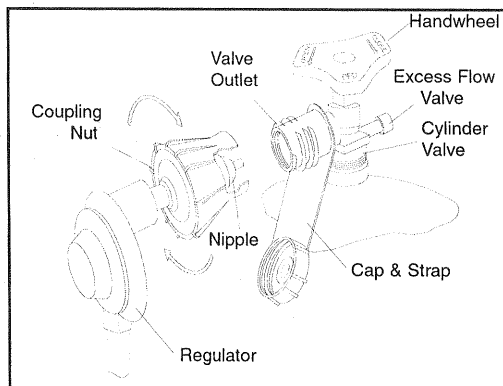

Figure 2. Coupling Assembly
Please note that when you connect your cylinder to the grill, you will feel the coupling nipple seal when there is slight resistance. (See Figure 2.) Turn about one-half to three-quarters further to complete the connection. Tighten only by hand; do not use tools. If you cannot complete the final connection, disconnect the regulator and repeat step 7, above. If you are still unable to complete the connection, replace the valve and/or regulator!
3. For LP gas, open the Gas Valve on the Cylinder using the Handwheel. (See Figure 2, Page 7.)
3. For LP gas, open the gas valve on the Cylinder using the handwheel (see Figure 2, Page 7). For Natural gas, open the Gas Valve in the main line.